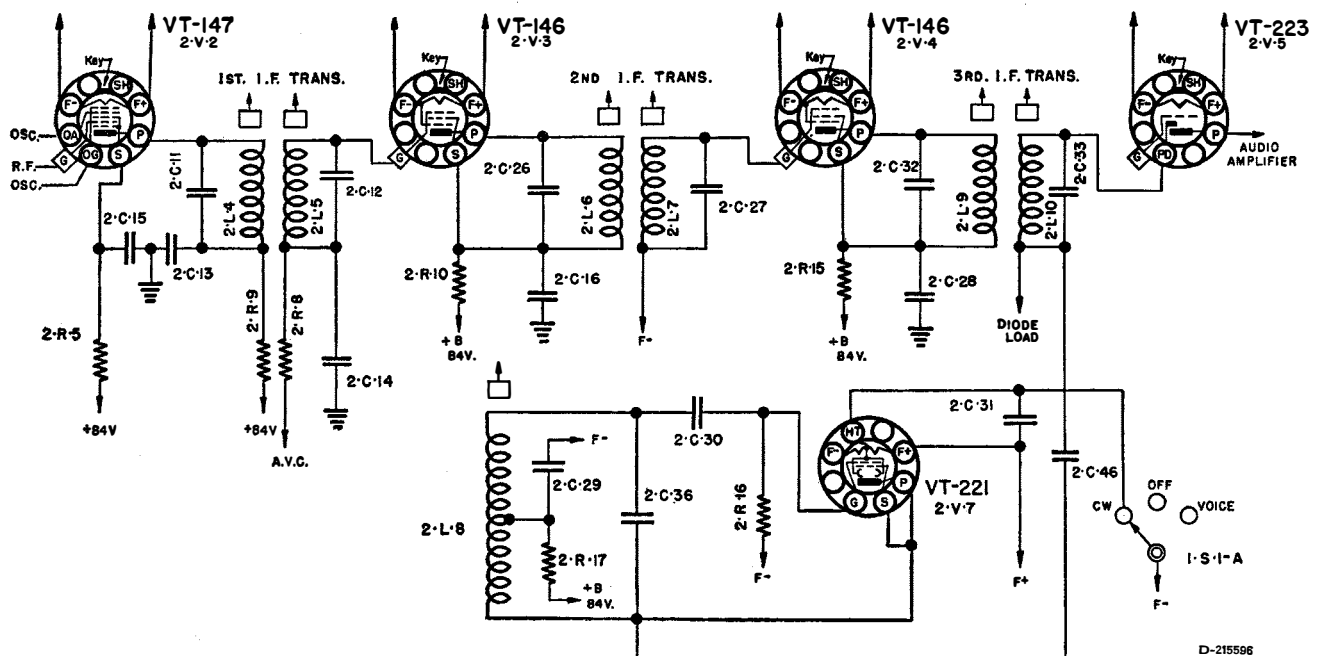

FIG. 11. INTERMEDIATE AND BEAT FREQUENCY OSCILLATOR CIRCUIT
b. Intermediate and Beat Frequency Oscillator Circuits: (FIG. 11)
- (1) The i-f amplifier consists of a two stage amplifier using two Tubes VT-146 (2-V-3 and 2-V-4), and three transformers (No. 1: 2-L-4 and 2-L-5, No. 2: 2-L-6 and 2-L-7, No. 3: 2-L-9 and 2-L-10) with permeability tuned primaries and secondaries. Each transformer together with the 270 μf capacitors across primary and secondary, is mounted in an aluminum shield.
- (2) The beat frequency oscillator uses a separate Tube, VT-221 (2-V-7), and oscillates at a fixed frequency of 455 kc. Its output is loosely coupled by means of a 4.7